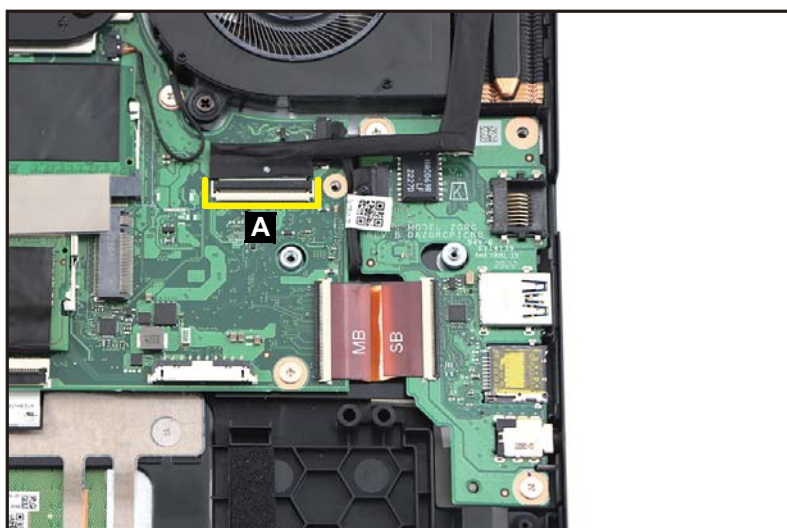

Figure 1-23. USB Board Removal
1. Disconnect the eDP cable from the mainboard connector (A) (Figure 1-23).